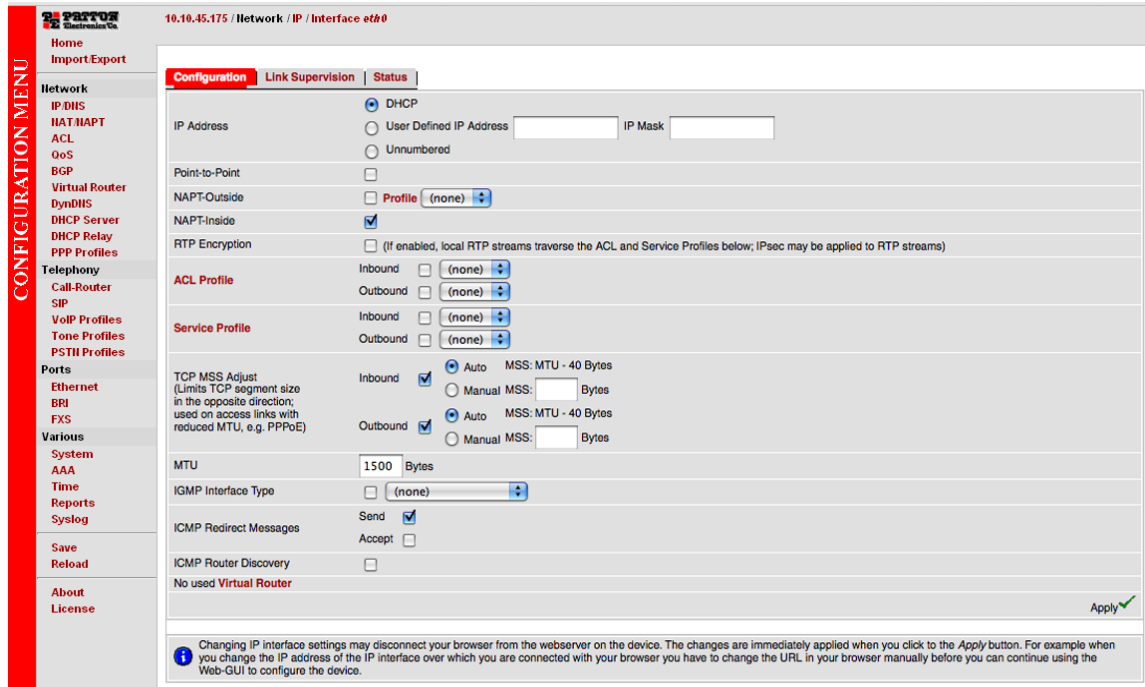

Figure 11. Ethernet Configuration page
1. In the configuration menu pane, click *IP/DNS*. In the *Interfaces* section, click on **eth0**. The Configuration screen for the Ethernet port displays (figure 11).
The SmartNode supports two configuration options for the Ethernet connection (see figure 11), as described in the following paragraphs: